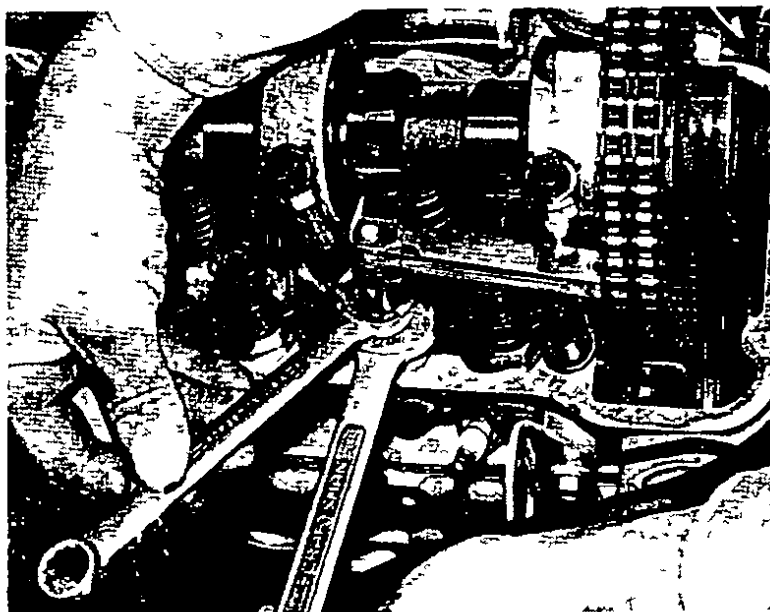

Fig 134 Tightening locknut – Models 610 and 710
- 6 If the clearance is out of specification, loosen the pivot locknut and turn pivot screw until specified clearance is reached. Tighten the locknut securely, Fig 134